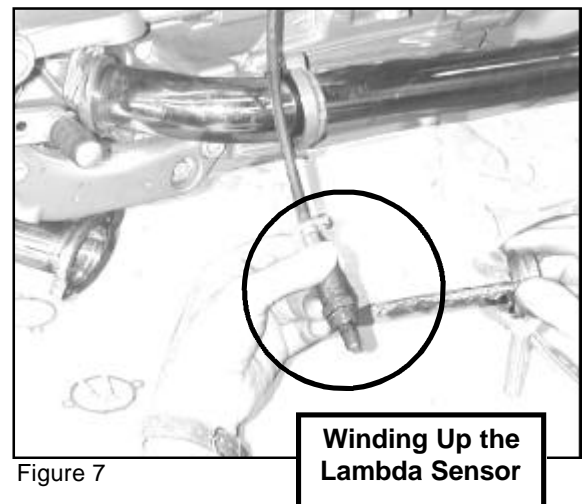

Figure 7
7. Apply anti seize compound on the threads of the Lambda Sensor. Figure 7.